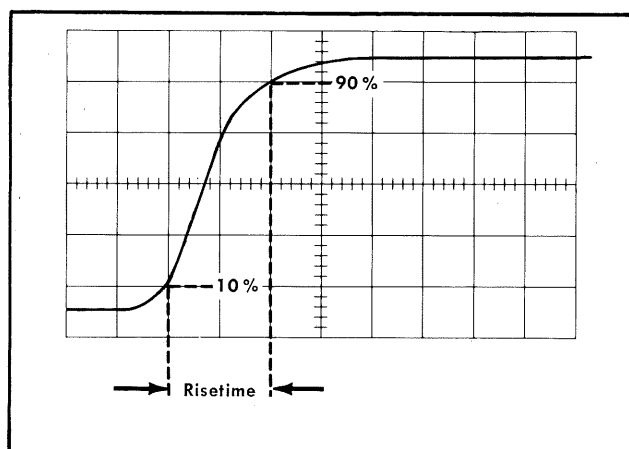

Fig. 2-5. Risetime measurement on a typical waveform.
4. Measure the time duration between these points (see Fig. 2-5). This is the combined risetime of the Type 106 and the oscilloscope ( $T_{re}$ ).